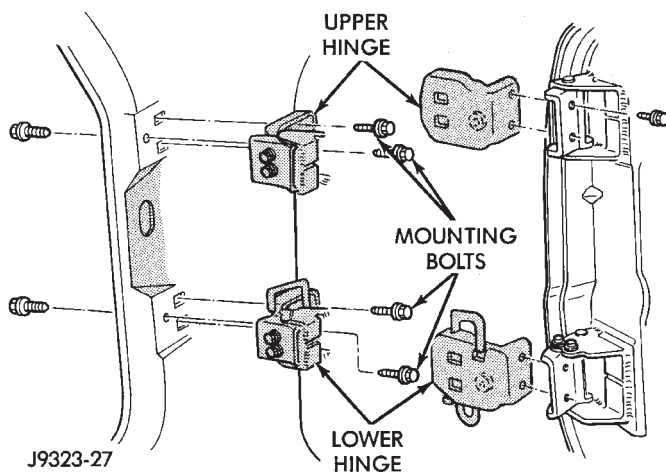

Fig. 15 Door Hinges and Bolts
- (1) Remove trim panel.
- (2) If equipped, disconnect power window regulator, power door lock motor and all other wire harness connectors.
- (3) Slide wire harness out of boot and door.
- (4) Mark an outline around door hinges for installation alignment reference.
- (5) Remove door hinge, retaining bolts, plates and shims (Fig. 15).
- (6) Identify and retain door hinge plates and shims for correct installation.